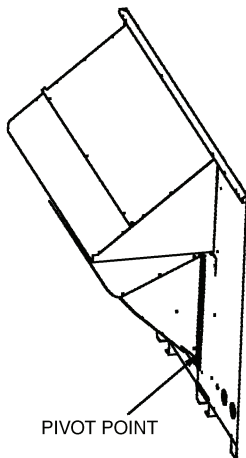

Fig. 15 — Pivot Point on Unit Panel
3. Place the barometric relief assembly into the unit. The accessory should pivot on the unit end panel. See Fig. 15.